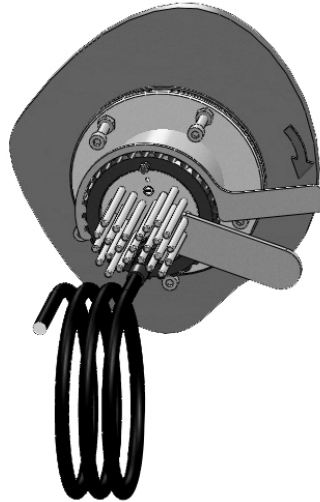

Fig.6.8
5. You will now need to re-install the rear locking ring which is packed separately. This locking ring is simply screwed onto the rear of the housing until it comes to a stop. It is crucial that this ring is screwed down all of the way until this stops. Tools are included in this kit to help with this Installation. The larger style half-spanner tool, marked 'A', will fit into the grooves on this locking ring. Slide the 3-hole tool, marked 'B', down the pins on the rear of the light unit and you will be able to leverage this ring until it is tight against the body of the light unit. (See Fig.6.8).